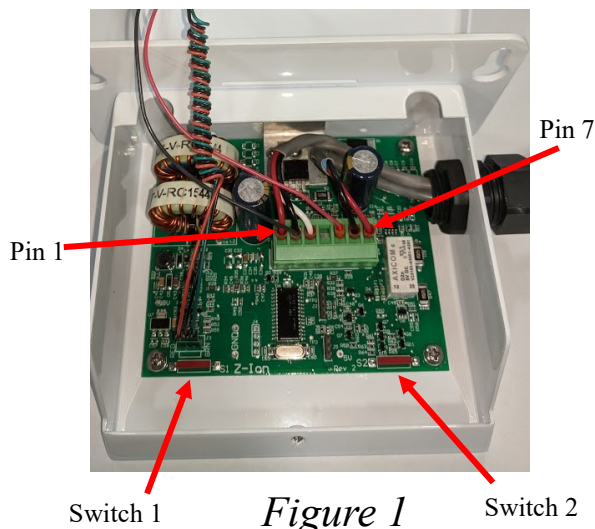

Figure 1
- There are 7 pins on the phoenix connector from left to right in Figure 1.